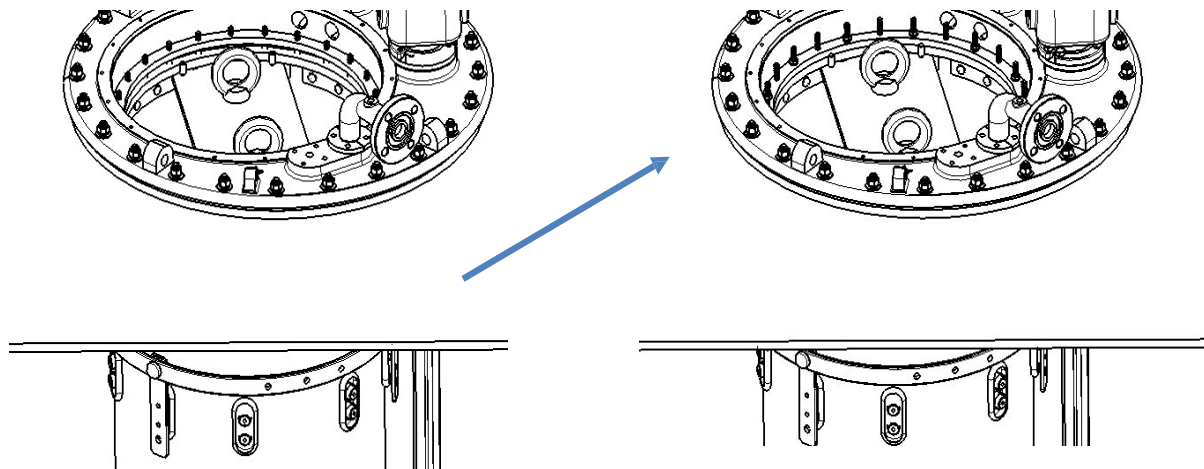

Figure 17
4. Slightly lift up the OLTC by special lifting device and make sure all the studs of supporting flange are accurately positioned in the OLTC fixing holes (See Figure17).